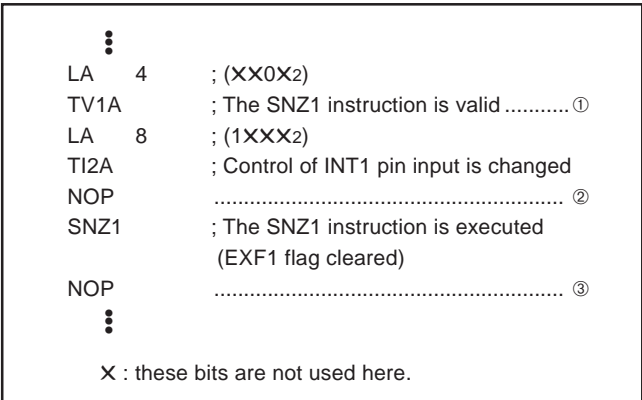

Fig. 61 External 1 interrupt program example-1
- Depending on the input state of the P31/INT1 pin, the external 1 interrupt request flag (EXF1) may be set when the bit 3 of register I2 is changed. In order to avoid the occurrence of an unexpected interrupt, clear the bit 1 of register V1 to "0" (refer to Figure 61①) and then, change the bit 3 of register I2. In addition, execute the SNZ1 instruction to clear the EXF1 flag after executing at least one instruction (refer to Figure 61②). Also, set the NOP instruction for the case when a skip is performed with the SNZ1 instruction (refer to Figure 61③).